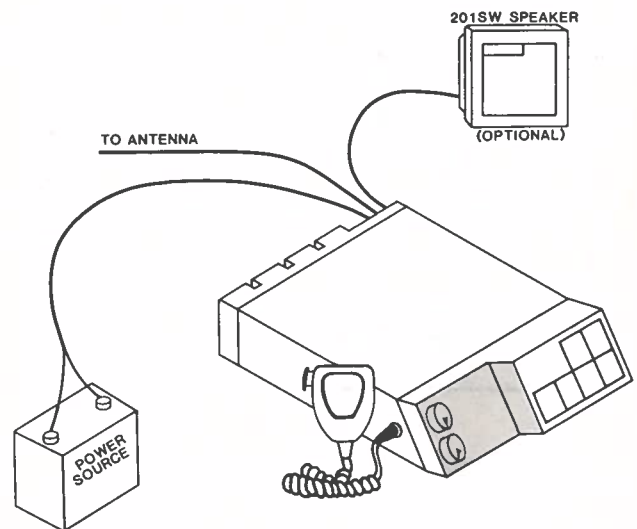

Figure 2. GX3000U Installation Interconnections
7. At the rear of the transceiver, connect the antenna cable to the antenna jack (see Figure 2).
8. Connect the red power cord to a suitable DC source (13.6 VDC $\pm 20\%$, 10 amp current). Connect the black power cord to negative ground. See Figure 2 for this step.